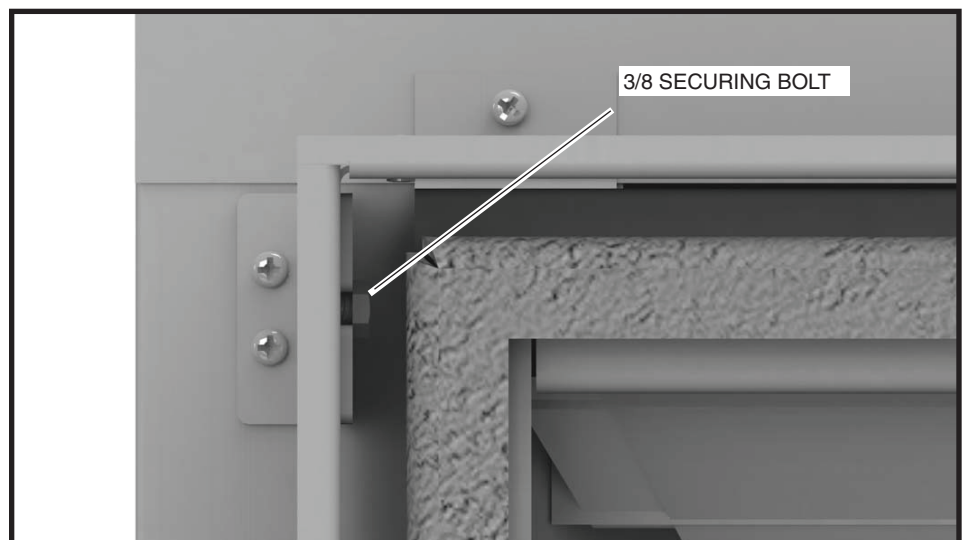

Figure 19: Lintel securing bolt.
4. Loosen the securing bolts in the upper and lower corners on each side of the lintel and remove the lintel. Rotate the assembly to have the desired edge away from the fireplace (Figure 19).